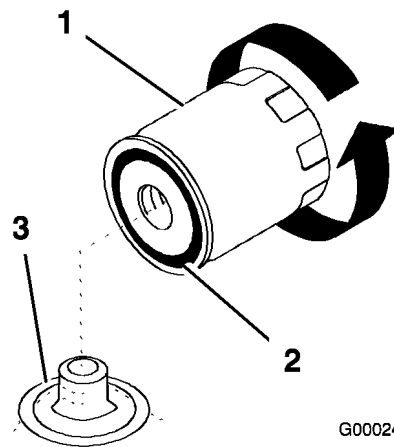

Figure 37
2. Remove the old filter and wipe the filter adapter (Figure 37) gasket surface.
3. Apply a thin coat of new oil to the rubber gasket on the replacement filter (Figure 37).
4. Install the replacement oil filter to the filter adapter. Turn the oil filter clockwise until the rubber gasket contacts the filter adapter, then tighten the filter an additional 1/2 turn (Figure 37).